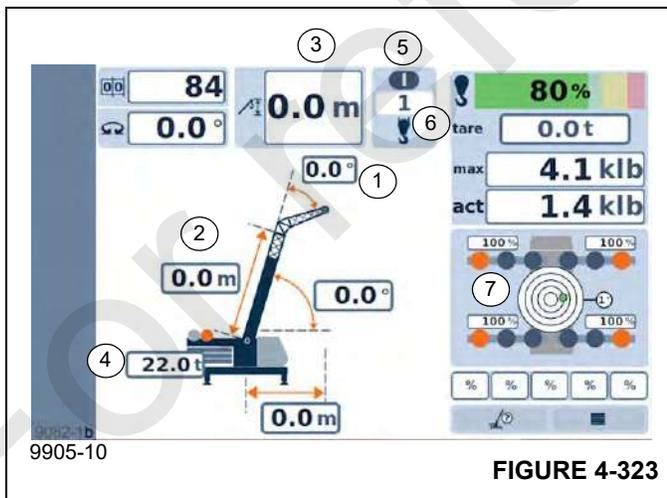

FIGURE 4-323
- Any time the key is off, the Rigging Code Screen is shown. Check (Figure 4-323):